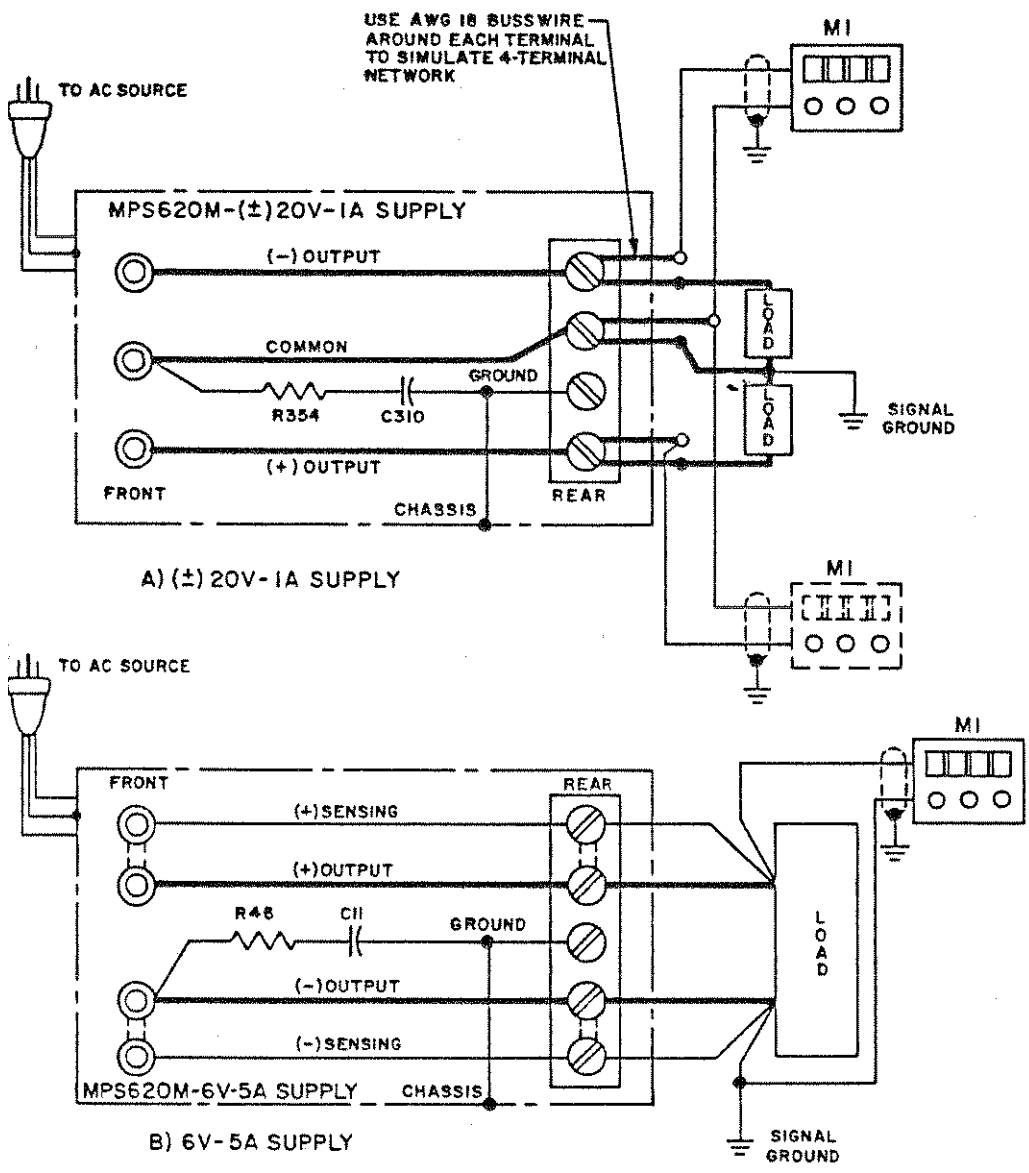

FIG. 5-2 CONNECTIONS FOR OUTPUT EFFECT MEASUREMENTS, MODEL MPS 620M.
- b) The proper location of the instrument leads when measuring output effects in response to a-c input source changes or load variations is of the utmost importance. Improperly placed leads may measure voltage drop due to contact resistance and load current flow and thus lead to incorrect results. FIG. 5-2 (a,b) shows clearly how to employ "4-terminal network techniques" when measuring output effects. The principle is very simple but important: **DO NOT MEASURE VOLTAGE DROPS DUE TO LOAD CURRENT.**
USE THE TEST SET-UP SHOWN IN FIG. 5-2. Vary the a-c input or the load over the specified limits and note the deviation ( $\Delta E_o$ ) on the instrument (M1). Calculate output effects by means of the equation (Eq. 1) above.